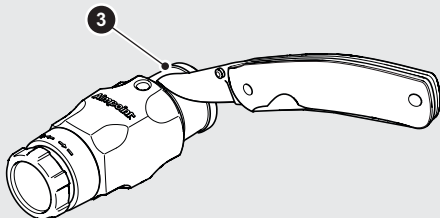

Fig. 2 Cut away rubber cover
The mounting surface (3) of the 3XMag-1 allow for mounting to any 30 mm diameter ring mount when the rubber cover is cut away, see Fig. 2.